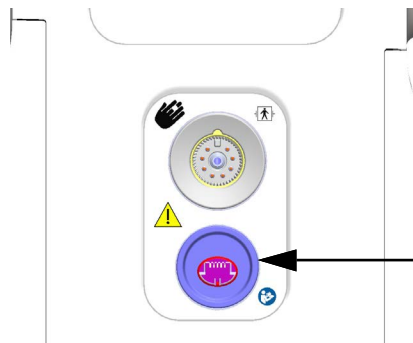

Figure 10-7 Pressure out to external monitor
- 2 Plug the compatible pressure-out (DPT) cable into the right panel of the monitor at the pressure out port. The pressure-out (DPT out) port is located below the ClearSight technology connection port. See ⑨ in Figure 10-7 on page 186.